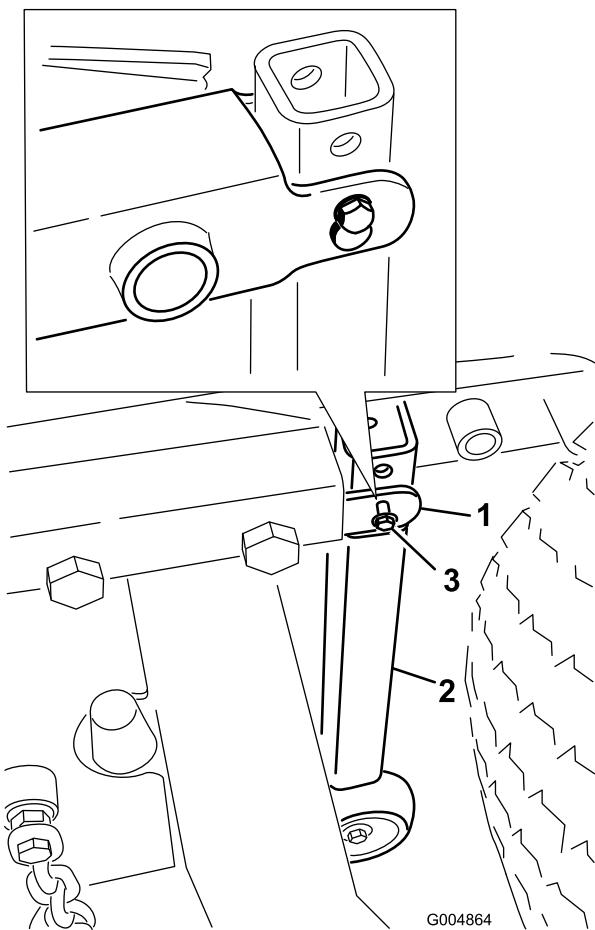
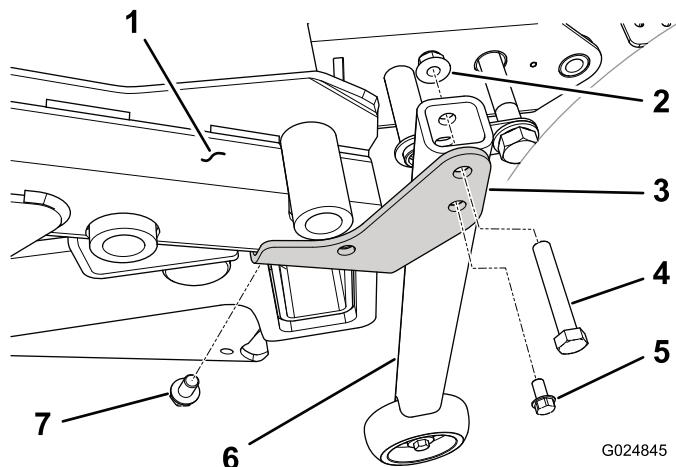

Figure 8
Figure 9
5. Remove the fasteners securing the vertical tube support assemblies to the rear of the deck frame (Figure 8) or to the conversion brackets (Figure 9). Also, remove the conversion brackets from the deck frame, if applicable.